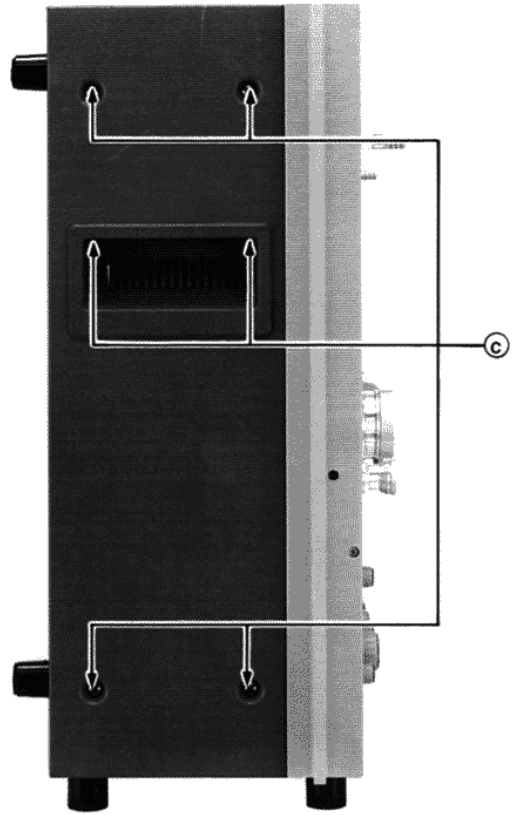

Figure 4-2. Screw Locations for Side and Top Rear Panel Removal
1. Remove the right side panel by removing six screws (see Figure 4-2).
Remove the six "c" screws (Figure 4-2).